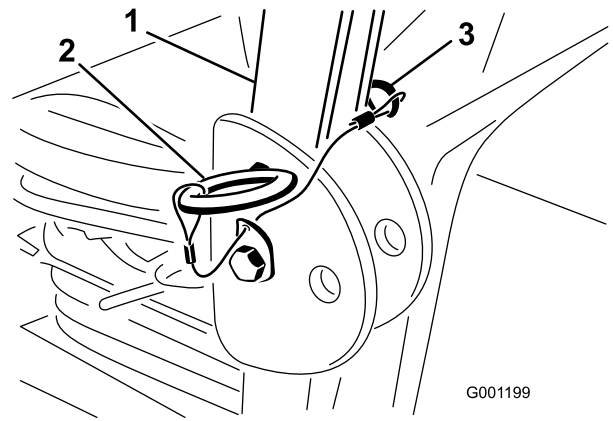

Figure 25
1. To lower the roll bar, remove the hairpin cotter pins and remove the two pins (Figure 25).
3. Install the two pins and secure them with the hairpin cotter pins (Figure 25).
4. To raise the roll bar, remove the hairpin cotter pins and remove the two pins (Figure 25).
5. Raise the roll bar to the upright position and install the two pins and secure them with the hairpin cotter pins (Figure 25).